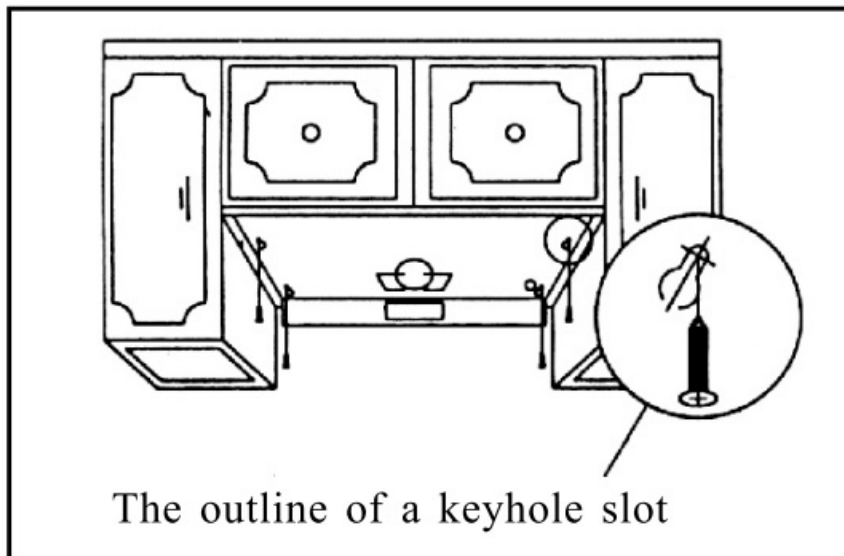

Fig. 7 Fasten screws to the bottom of the cabinet
3. On the bottom of the cabinet, mark the center position of the narrower ends of the four keyholes on the top of the range hood. Screw the four 5/8"-long wood screws (3/16" in diameter) on the cabinet loosely. (Fig.7)